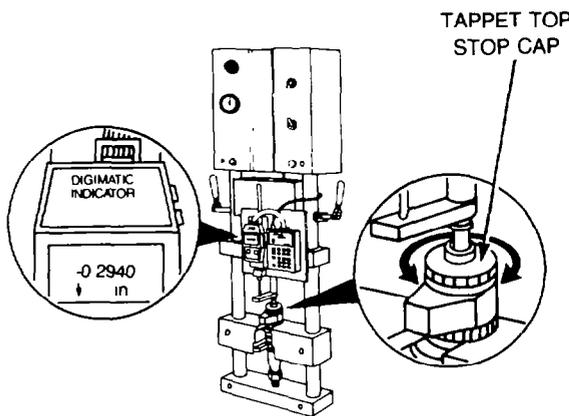

Figure 132 — Plunger Travel — Adjustment
- r. If the travel is incorrect, adjustment is carried out by turning the tappet top stop cap until the correct reading is obtained (see Fig. 132).